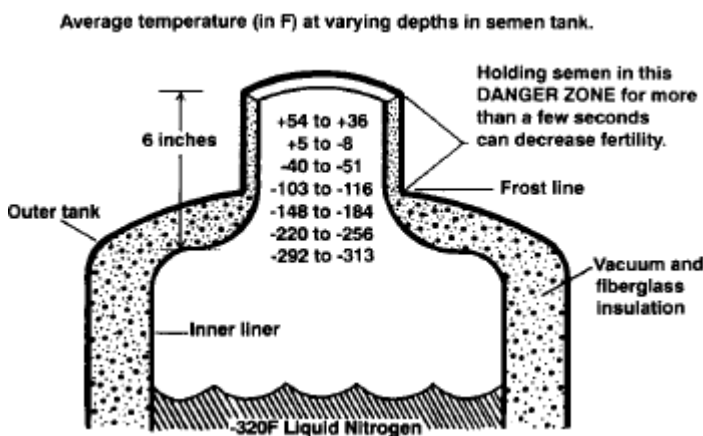

Figure 1. Cross-section diagram of liquid nitrogen tank used to store semen
**Retrieving Semen-** In the typical farm semen tank, dangerous temperatures exist in the upper half of the neck tube. Exposure to these temperatures can occur when trying to locate a specific unit of semen or when transferring semen from tank to tank (Figure 1). Thermal injury to sperm is permanent and cannot be corrected by returning semen to liquid nitrogen.